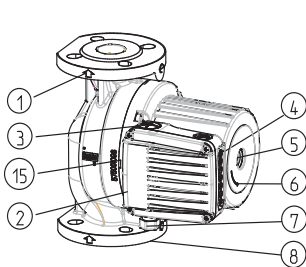
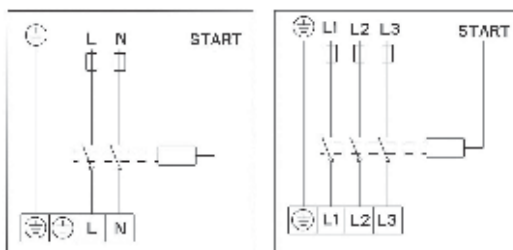

Fig.2
Fig. 4
- Direction of water flow through the pump should match with direction, indicated by an arrow on the pump casing (Fig.2-POS.1).
- The connecting flanges are designed for nominal pressure NP 6/10 (Fig.2 – POS.8).
- GHN (basic, auto), GHNM (basic, auto) pumps have a single hydraulic casing (Fig.2 – POS.8).
The hydraulic casing of the pump can be insulated only to the cleft between the motor and the hydraulic casing. Openings for condensate drainage should remain uncovered and enable the drainage from the stator housing. Similarly, the same openings must be uncovered also in heating systems, when only thermal insulation of hydraulic casing is implemented (Fig. 2, 3, POS. 15). Electric motor casing, on which the openings for condensate drainage are located, under no condition should not be insulated!
The connecting wire has to be connected over a cable entry M20 (Fig.2 – POS.7).
Electrical connections of the pump must be carried out in accordance with the wiring diagram (Fig. 4), attached on the bottom of motor cover. Before doing that unwind the upper cover (Fig. 2 - POS. 2).
In the pumps of types GHN (basic auto), GHND (basic, auto), GHNMD (basic, auto), GHNMD (basic, auto) the rotor is submerged and provided with special water-lubricated bearings. Before putting the pump into operation, it has to be filled with water and deaerated. Deaerate the pump by unscrewing a screw on the back side of the electric motor (Fig.2-POS.5). Air will flow out through the cleft between the motor shaft and the bearing. When water starts to flow out, close the valves at both the suction and pressure side of the pump. Start the pump and check the direction of shaft rotation. In case of a wrong direction a built-in flash lamp will start to blink with red light.
Each pump is able to cover the areas of three hydraulic characteristics. To achieve this, it has an inbuilt electric motor with three different revolution speeds. For achieving the selected characteristics or speeds ① ② ③, the pump has a push button  (Fig.2-POS. 4), with which we change speeds.
Switch off the pump, close the valve on both pressure and suction sides of the pump, unscrew the vent for deaeration, place the screwdriver (Fig.2-POS.5) in the notch on the shaft and twist as long as friction forces allow. Then screw the vent for deaeration.